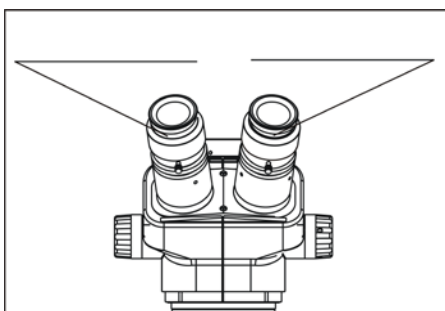

Fig.3
- (1) Turn the zoom control knob to the maximum magnification.
- (2) Turn the diopter adjusting rings to the zero.
- (3) Observe the specimen through the right eyepiece and make the image clear by turning the focusing knob.
- (4) Rotate the zoom control knob to the minimum magnification.
- (5) Observe the specimen through the right eyepiece and make the image clear by turning the right diopter adjusting ring. (Fig.3)
- (6) Redo the step(3)and (5) till the right adjusting ring is more precise.
- (7) Do the step (4) and make the image clear which is observed through the left eyepiece by turning the left diopter adjusting ring ①. (Fig.3)